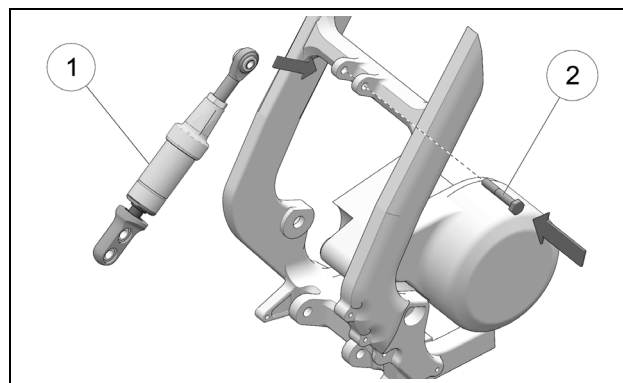

Figure 21
- Position the Soft Strut to the bike's shock absorber upper mount. See Figure 21.
- Assemble Soft Strut (1) using the bike's shock absorber assembly bolt (2). See Figure 21
- Tighten shock assembly bolt (2) to manufacturer's recommended torque specification. Figure 21.